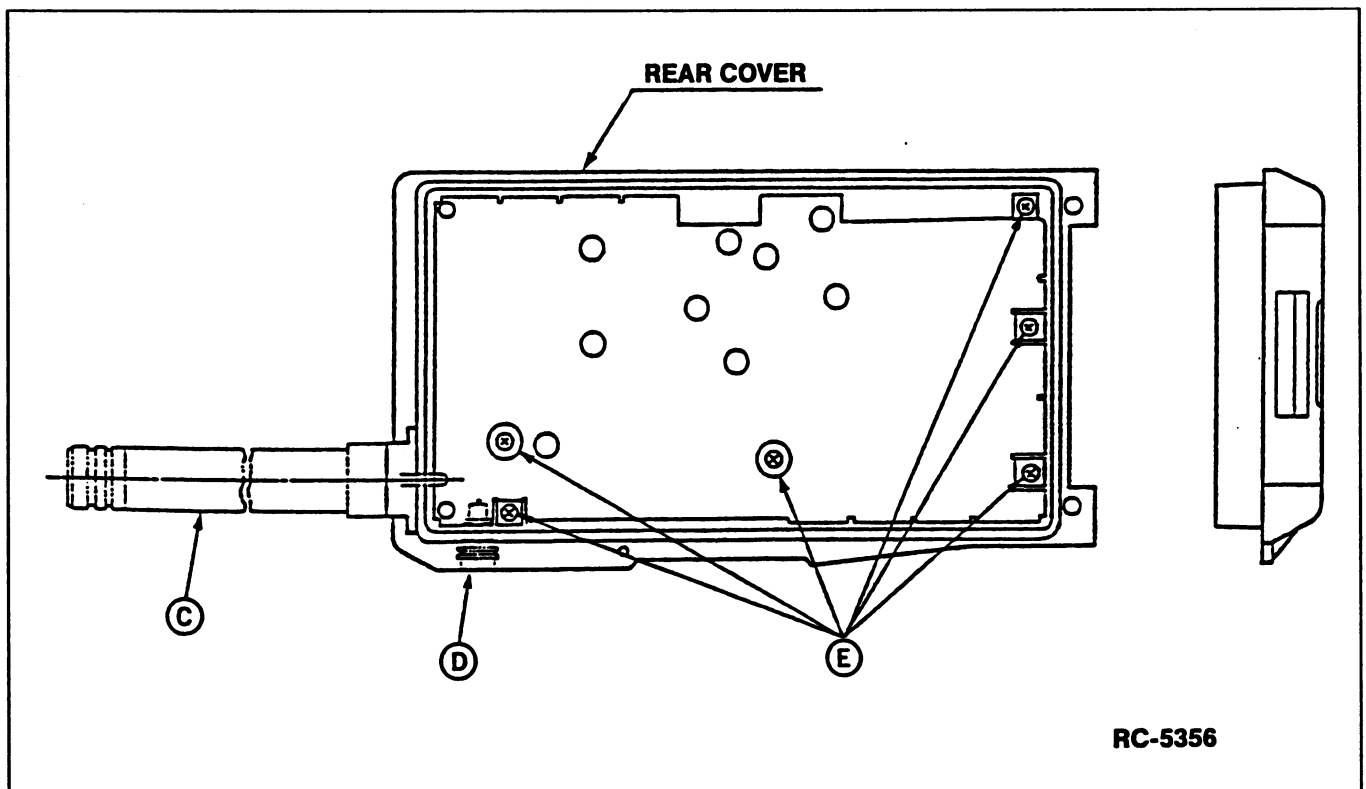

FIGURE 13 - DISASSEMBLY STEP 3
3. Unscrew and remove the antenna at [C] and UDC RF connector at [D] (Figure 13).